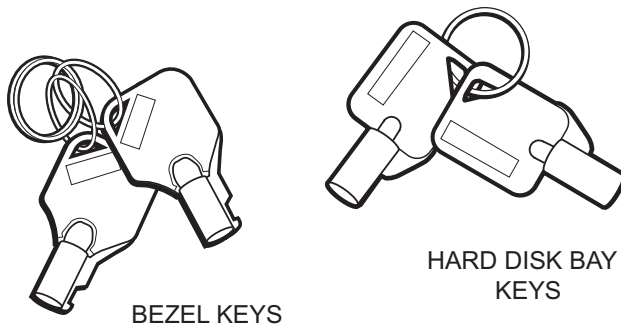
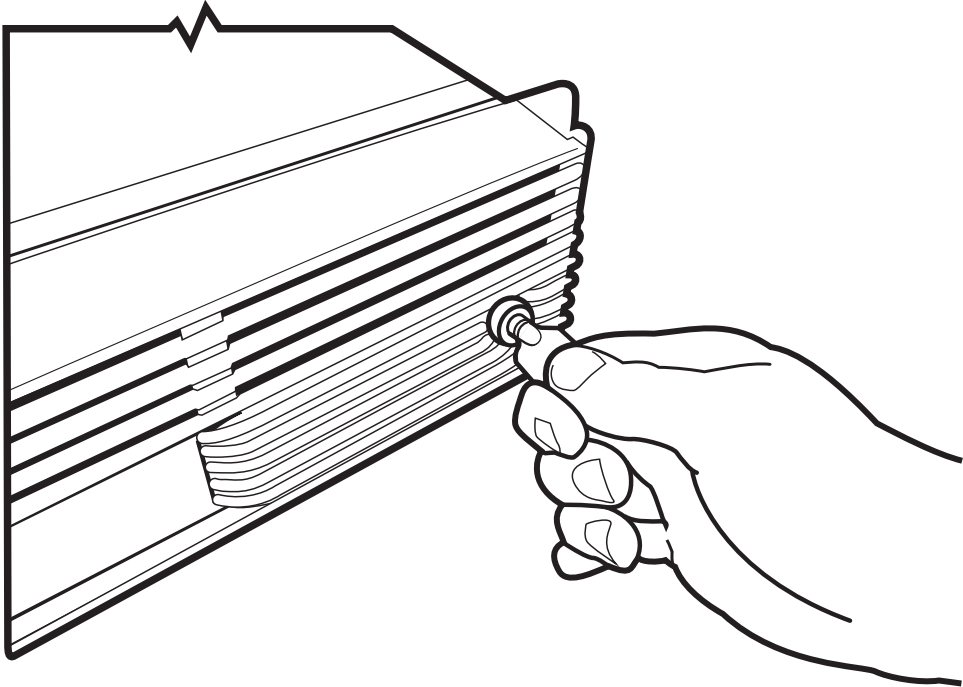
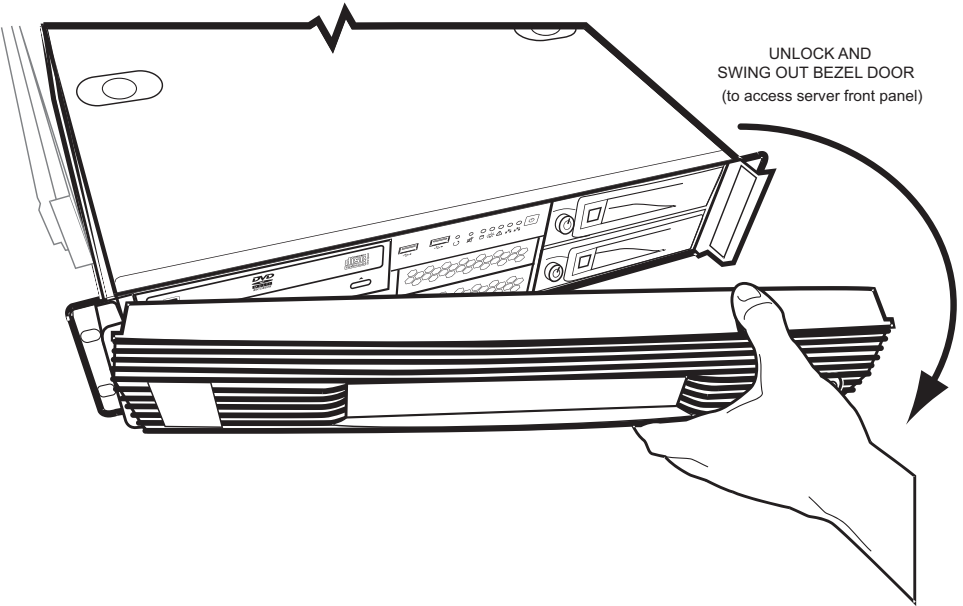

Figure 2.10 Bezel and Hard Disk Keys
Figure 2.12 Unlocking the Front Bezel of the TMG7800-CTRL
Figure 2.13 Opening the Front Bezel to Access the Hard Disks of the TMG7800-CTRL
1. Using the bezel key, unlock and remove the TMG7800-CTRL front bezel. See figure 2.10 on page 18, figure 2.12 on page 19, and figure 2.13 on page 19.